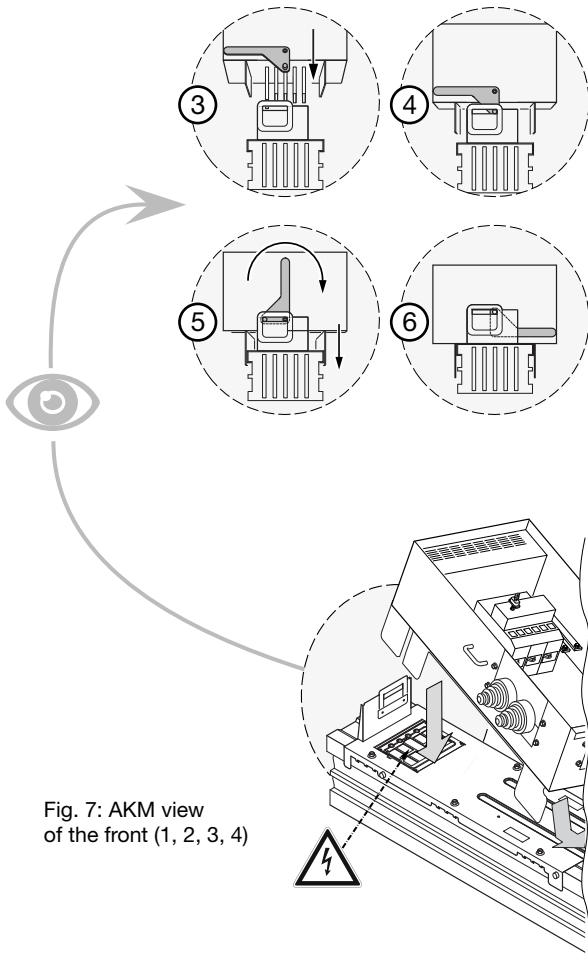

Fig. 7: AKM view of the front (1, 2, 3, 4)
- Fig. 7 - Flip the lever - engage the AKM:
- Flip the lever (6) until the AKM engages in the bracket of the mounting aid.